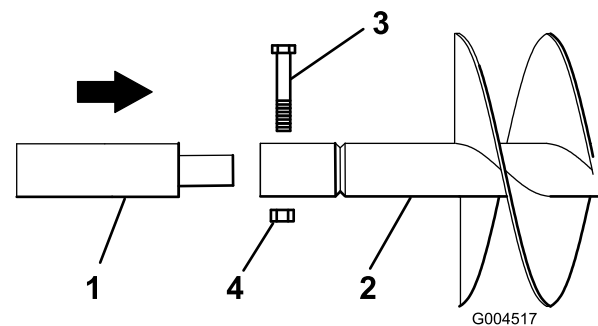

Figure 6
5. If using an extension with the auger, insert the end of the extension into the end of the auger and secure the auger to the extension with a bolt (7/8 x 4-1/2 inch) and nut (7/8 inch) (Figure 6).